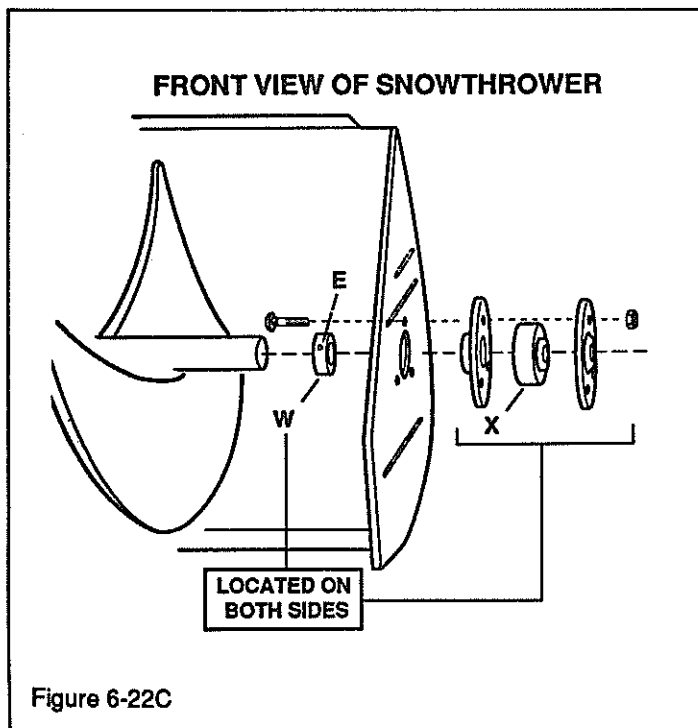

Figure 6-22C
- d. Loosen locking collar set screws. See Figure 6-22C. Loosen locking collar by inserting a punch in the hole in the collar and striking the punch with a hammer. The collar is an oval design. To loosen the collar, turn it in the opposite direction of normal rotation.
- Install chain side locking collar (W, Figure 6-22C), bearing, bearing flange and hardware.
- Install non-chain side bearing (X), bearing flanges, and hardware. (continued on page 6-16).